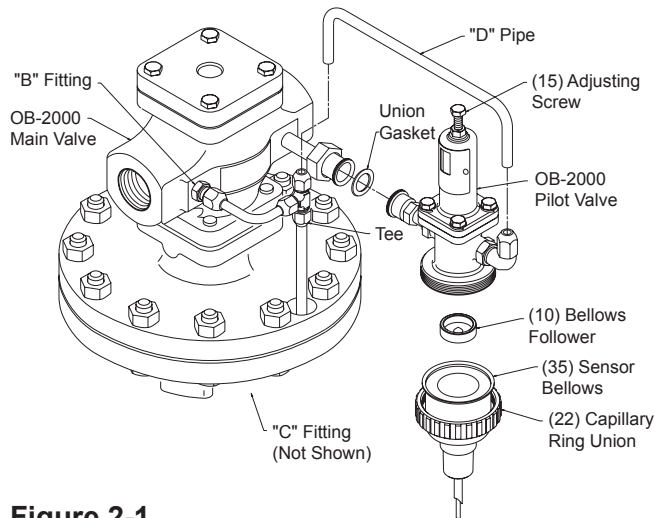

Figure 2-1
1. After the pilot body has been installed, install the capillary system. See Figure 3-1 on Page 3. Be sure to insert bellows follower (10) as shown in Figure 2-1.
2. Thermal bulb (23) may be installed in any position. However, care should be taken so that at least three quarters of the thermal bulb is touching the heated fluid or air flow.
2. Turn the adjusting screw (15) and align the gauge needle with the required temperature position on the dial. See Figure 2-1 and Table 3-1. Temperature will rise when turning clockwise (right) and temperature will fall when handle is turned counterclockwise (left).
1. Remove hexagonal bolts (38) from main valve cover (26) and remove cover from body (1).
2. Remove main valve spring (13) and the main valve (6).
3. Use a special socket up from the bottom of valve body to remove main valve seat (7).
4. Disconnect all tubing joints C, B and tee fitting. Reference Figure 2-1.
5. Remove all bolts (41) from diaphragm cases (4 and 5) separating both halves, remove diaphragm case, main diaphragms (12), retainer (11), and main spindle (9).